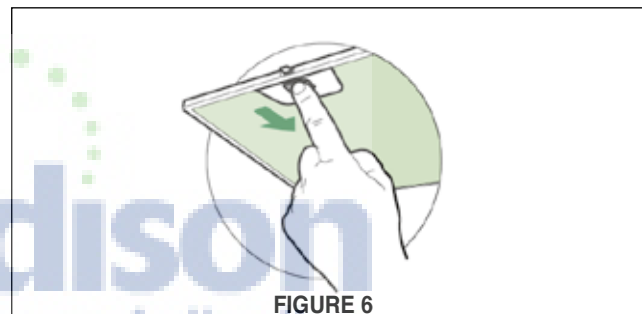

FIGURE 6
4. Open the upper panel by pressing the L button (see Control Panel on page 8). Using two hands, remove the grease filters one at a time by pushing the filter forward and pulling the handle down. (**FIGURE 6**)